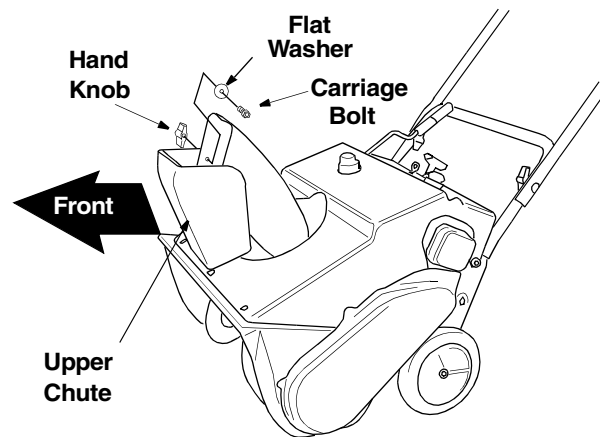

Figure 7
- Turn the chute crank until the chute faces straight to the front. See Figure 7 .
- Remove the hand knob, flat washer and carriage bolt from the upper chute. See Figure 7.